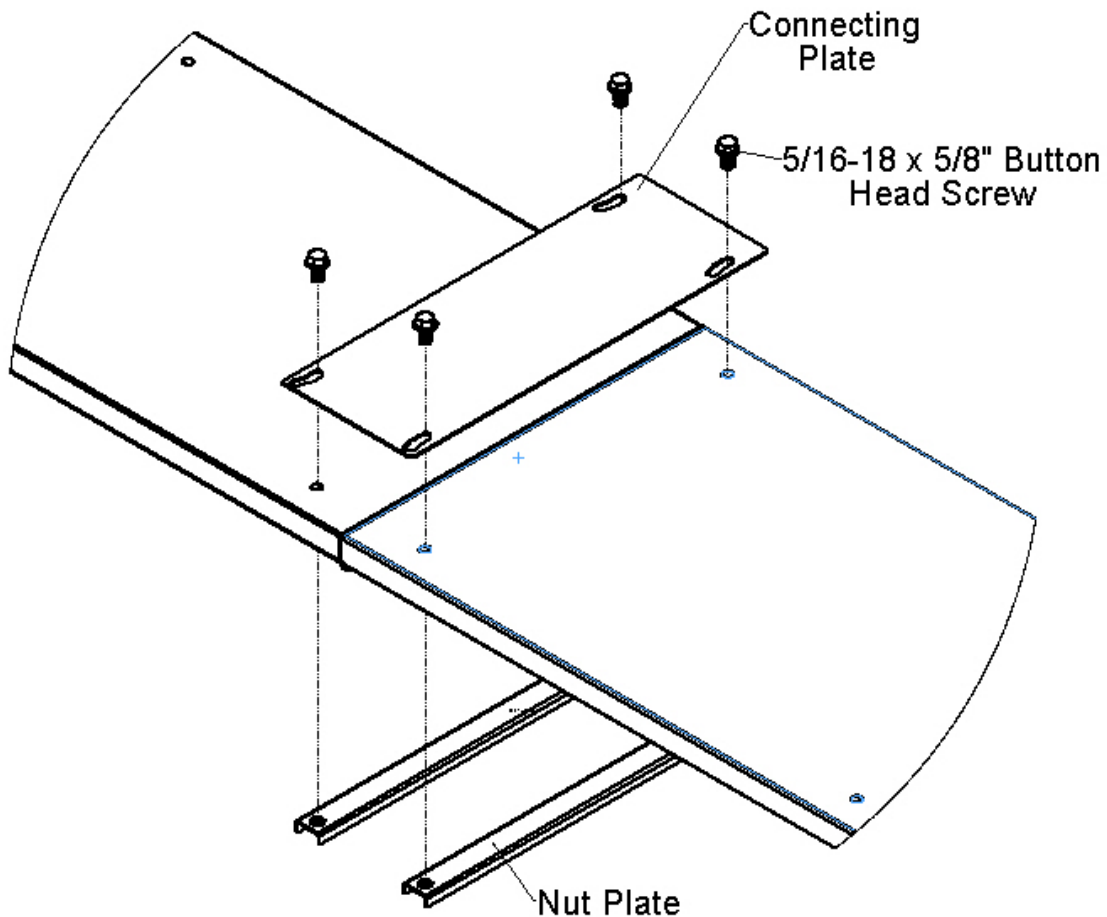

Figure 4 - OHC Top Connecting Plate to Nut Plate
- A. Position Connecting Plate on top seam between Cabinets and align angled slots over knocked out holes. Locate Plate so “angled” portion of slot is towards front of Cabinet as shown in Fig. 4.
- B. Locate (1) Nut Plate into inside top of OHC with threaded inserts and flanges pointing down as shown in Fig. 4
- D. Screw (4) 5/16-18 x 5/8” Button Head Bolts through Connecting Plate OHC Top and into Nut Plate as far as possible by hand.